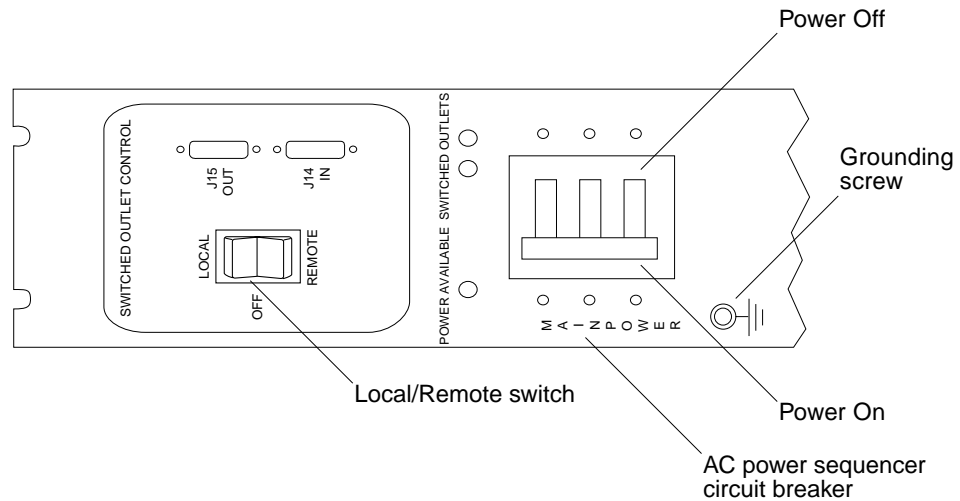

FIGURE 4-6 AC Power Sequencer Control Panel
4. **Push the AC power sequencer circuit breakers at the bottom front and bottom back of the storage system to Off (FIGURE 4-6).**
6. Push the Local/Remote switch at the bottom front and bottom back of the storage system to Remote (FIGURE 4-6).
7. Press the AC power sequencer circuit breakers at the bottom front and bottom back of the storage system to On (FIGURE 4-6).
3. **At the bottom of the storage system(s), remove the trim panels and push the AC power sequencer circuit breakers to Off (FIGURE 4-6).**